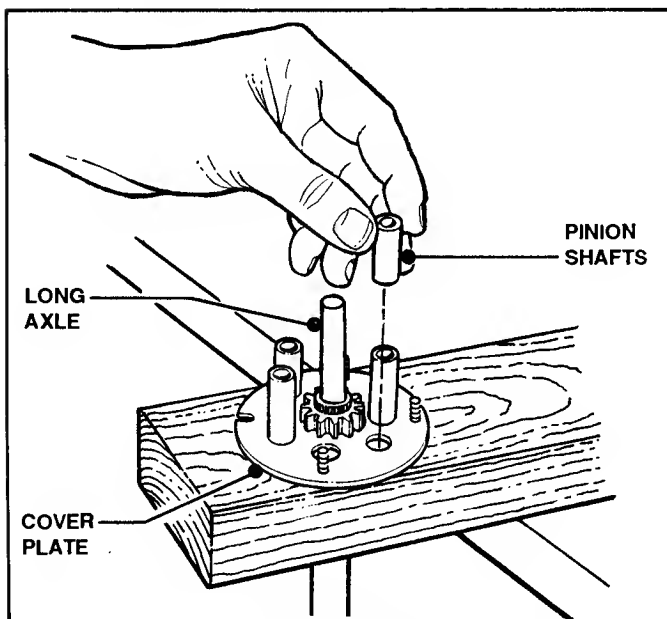

FIGURE 5.8
3. If reassembling in hand, insert two of the 1 1/2" long capscrews in one of the cover plates and hold in hand with screws pointing up. If using the 2 x 4, install all four capscrews and place plate over hole drilled in the board. See Figure 5.8.
4. Insert long axle through center hole in plate with pin facing up. Refer to Figure 5.8.
5. Lightly grease the four pinion shafts, then install in cover plate. Refer to Figure 5.8.